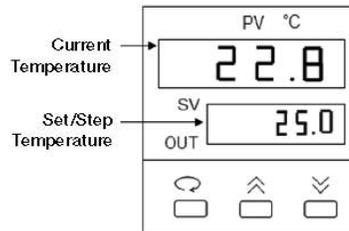

Fig. 1. Temperature Control Screen.
- The temperature control screen (see Fig. 1).
1. From the temperature control screen, use the arrow keys to adjust the Set Temperature to your desired target temperature in °C (Fig. 1)
Note: Following programming by default the controller displays the Step Temperature rather than the Set Temperature (see Fig 1. below). The step temperature is the next temperature value the system will reach as it heats/cool to reach set temperature. To display the Set Temperature press the ↻ key.